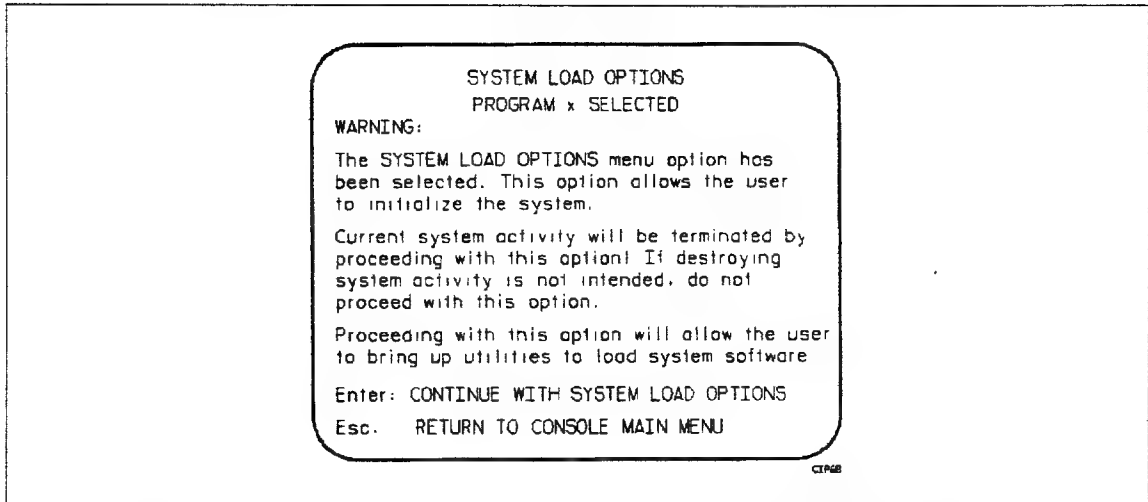

Figure 3-4. System Load Options Warning (Dual IOU Systems)
- ___ a. To execute a short deadstart, type **S** or press **Enter** from the CONSOLE MAIN MENU; the SYSTEM LOAD OPTIONS warning shown in figure 3-4 appears. From this display, press the **Enter** key to proceed with the deadstart. This option deadstarts both IOU0 and IOU1. Upon completion of the deadstart, the INITIAL OPTIONS display appears.
- ___ 2. From the CONSOLE MAIN MENU display, type **S** or press **Enter**. Because current system activity will be terminated by proceeding with the **S** option, the warning display shown in figure 3-4 appears. From this display, press **Enter** to proceed to the INITIAL OPTIONS display.
- ___ 2. From the CONSOLE MAIN MENU display, type S or press **Enter**. Because current system activity will be terminated by proceeding with the S option, the warning display shown in figure 3-4 appears. From this display, press **Enter** to proceed to the INITIAL OPTIONS display.